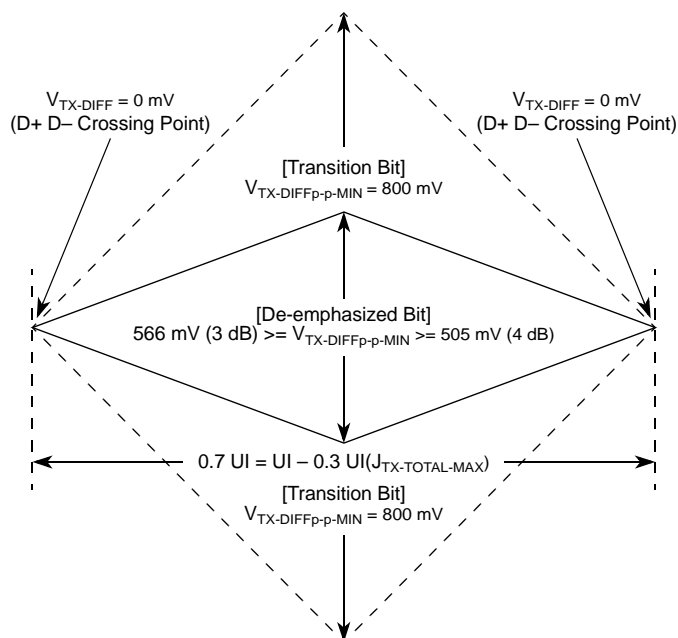
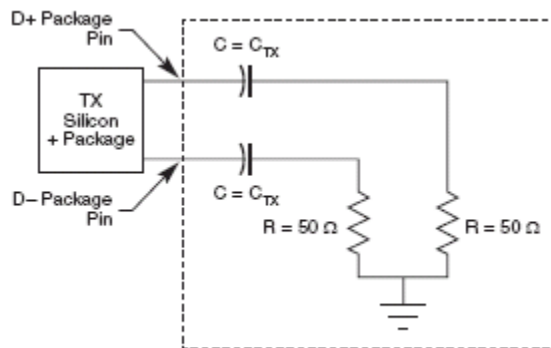

Figure 27. Minimum Transmitter Timing and Voltage Output Compliance Specifications
Figure 29. Compliance Test/Measurement Load
2. Specified at the measurement point into a timing and voltage compliance test load as shown in Figure 29 and measured over any 250 consecutive TX UIs. (Also refer to the transmitter compliance eye diagram shown in Figure 27.)
4. The transmitter input impedance shall result in a differential return loss greater than or equal to 12 dB and a common mode return loss greater than or equal to 6 dB over a frequency range of 50 MHz to 1.25 GHz. This input impedance requirement applies to all valid input levels. The reference impedance for return loss measurements is 50  $\Omega$  to ground for both the D+ and D- line (that is, as measured by a vector network analyzer with 50- $\Omega$  probes, see Figure 29). Note that the series capacitors,  $C_{\text{TX}}$ , is optional for the return loss measurement.
5. Measured between 20%–80% at transmitter package pins into a test load as shown in Figure 29 for both  $V_{\text{TX-D+}}$  and  $V_{\text{TX-D-}}$ .
The TX eye diagram in Figure 27 is specified using the passive compliance/test measurement load (Figure 29) in place of any real PCI Express interconnect + RX component. There are two eye diagrams that must be met for the transmitter. Both diagrams must be aligned in time using the jitter median to locate the center of the eye diagram. The different eye diagrams differ in voltage depending on whether it is a transition bit or a de-emphasized bit. The exact reduced voltage level of the de-emphasized bit is always relative to the transition bit.
2. Specified at the measurement point and measured over any 250 consecutive UIs. The test load in Figure 29 should be used as the RX device when taking measurements (also refer to the receiver compliance eye diagram shown in Figure 28). If the clocks to the RX and TX are not derived from the same reference clock, the TX UI recovered from 3500 consecutive UI must be used as a reference for the eye diagram.
4. The receiver input impedance shall result in a differential return loss greater than or equal to 15 dB with the D+ line biased to 300 mV and the D– line biased to –300 mV and a common mode return loss greater than or equal to 6 dB (no bias required) over a frequency range of 50 MHz to 1.25 GHz. This input impedance requirement applies to all valid input levels. The reference impedance for return loss measurements for is 50  $\Omega$  to ground for both the D+ and D– line (that is, as measured by a vector network analyzer with 50- $\Omega$  probes, see Figure 29). Note that the series capacitors,  $C_{TX}$ , is optional for the return loss measurement.
The RX eye diagram in Figure 28 is specified using the passive compliance/test measurement load (Figure 29) in place of any real PCI Express RX component. In general, the minimum receiver eye diagram measured with the compliance/test measurement load (Figure 29) is larger than the minimum receiver eye diagram measured over a range of systems at the input receiver of any real PCI Express component. The degraded eye diagram at the input Receiver is due to traces internal to the package as well as silicon parasitic characteristics which cause the real PCI Express component to vary in impedance from the compliance/test measurement load. The input receiver eye diagram is implementation specific and is not specified. RX component designer should provide additional margin to adequately compensate for the degraded minimum Receiver eye diagram (shown in Figure 28) expected at the input receiver based on an adequate combination of system simulations and the return loss measured looking into the RX package
The reference impedance for return loss measurements is 50 Ω to ground for both the D+ and D- line (that is, as measured by a Vector Network Analyzer with 50 Ω probes—see Figure 29). Note that the series capacitors, CPEACCTX, are optional for the return loss measurement.
The AC timing and voltage parameters must be verified at the measurement point, as specified within 0.2 inches of the package pins, into a test/measurement load shown in Figure 29.